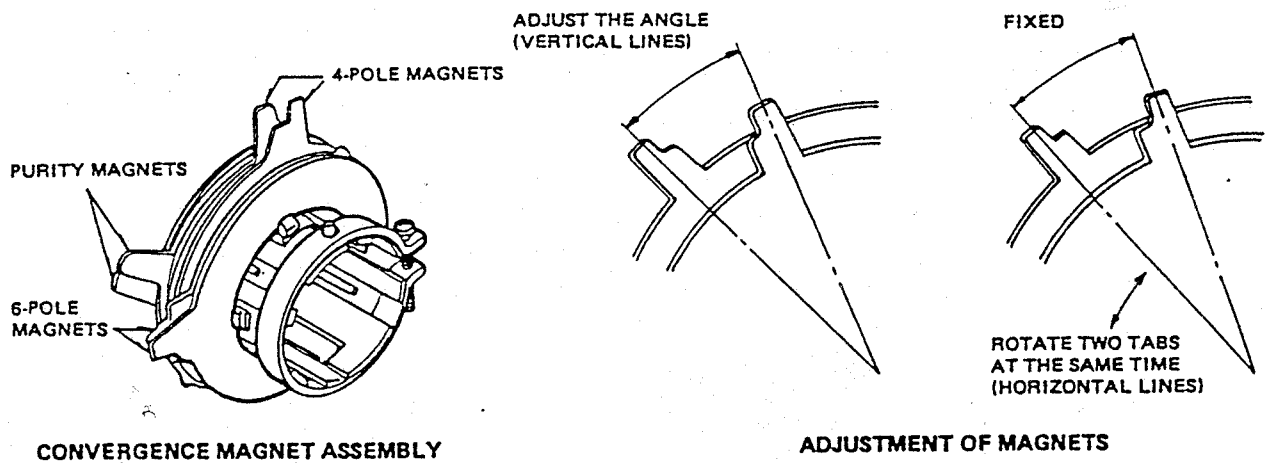
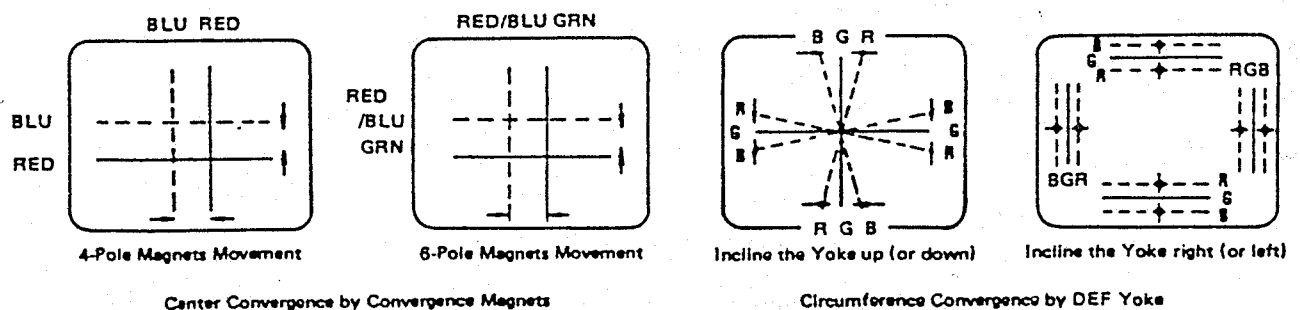

Fig. 21.
Fig. 22. Dot Movement Pattern
- (c) Adjust two tabs of the 4 Pole Magnets to change the angle between them (see Fig.21.) and superimpose red and blue vertical lines in the centre area of the picture screen. (See Fig. 22.)
- (d) Turn both tabs of the 4 Pole Magnets to change the angle to superimpose red and blue horizontal lines at the centre of screen (See Fig.21.)
- (e) Tilt front of the yoke right or left obtain better convergence in circumference. (See Fig. 22.)
- (f) Rotate and spread the tabs of the purity magnet (see Fig.21.) around the neck of the picture tube until the green belt is in centre of the screen. At the same time, centre the raster vertically.